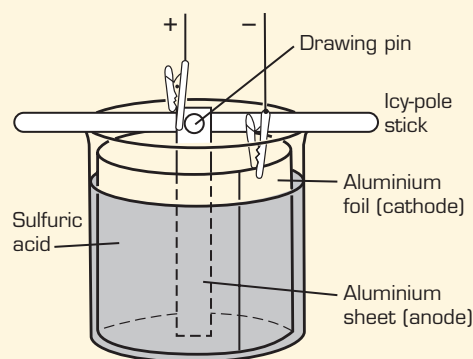

figure ec.14
- 3 Use a drawing pin to attach the sheet to an icy-pole stick and suspend it in the centre of the beaker (as shown in figure ec.14). This sheet will act as the anode and must not be in contact with the